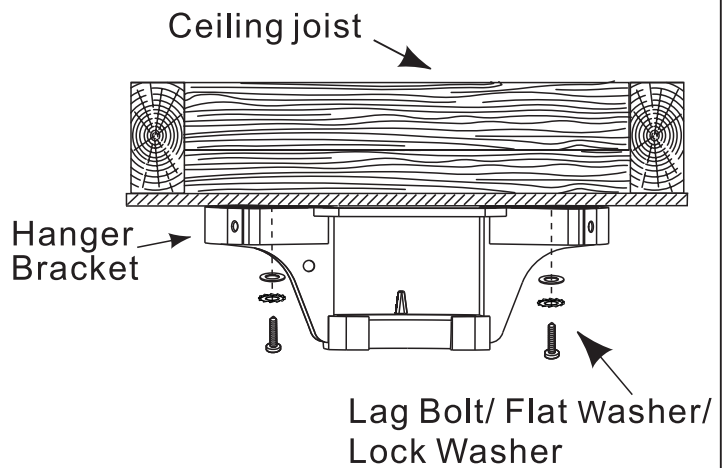

Figure 1
1. Securely attach the hanger bracket to the ceiling joist using the lag bolt, flat washers and spring washers supplied (Figure 1)